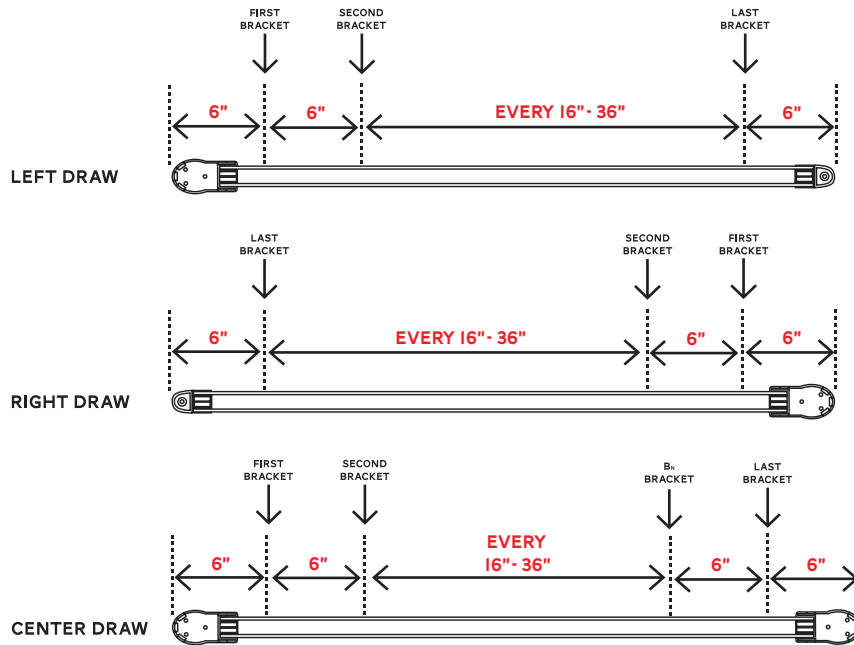

Figure 2.1.1 - Bracket Placement
1.1 - Install the outer brackets first. Locate the center of the outer brackets 6" from each end of the track. See Figure 2.1.1